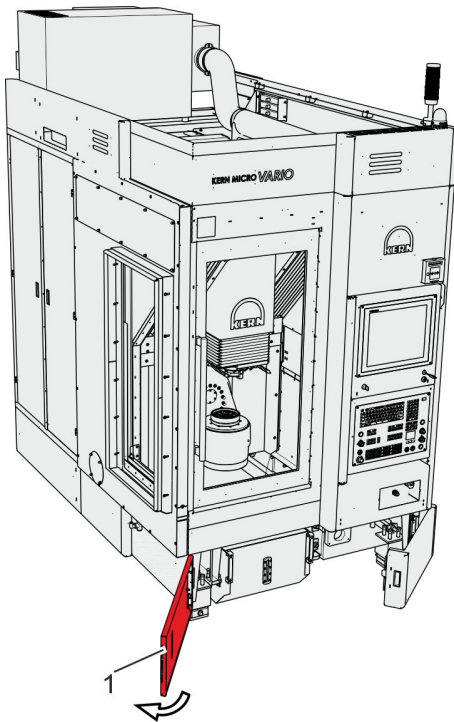

Fig. 83: Opening the flap (left)
7. → Pull open the left flap (Fig. 83/1) using the handle.